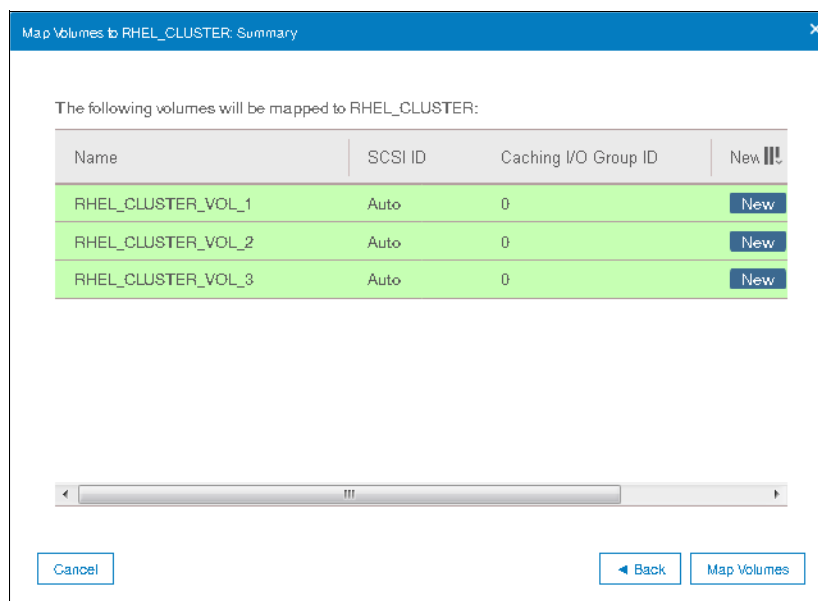

Figure 5-92 Summary of volumes to be mapped to host cluster
- Click **Next**. A summary screen with the list of volumes to be mapped will be shown as in Figure 5-92.